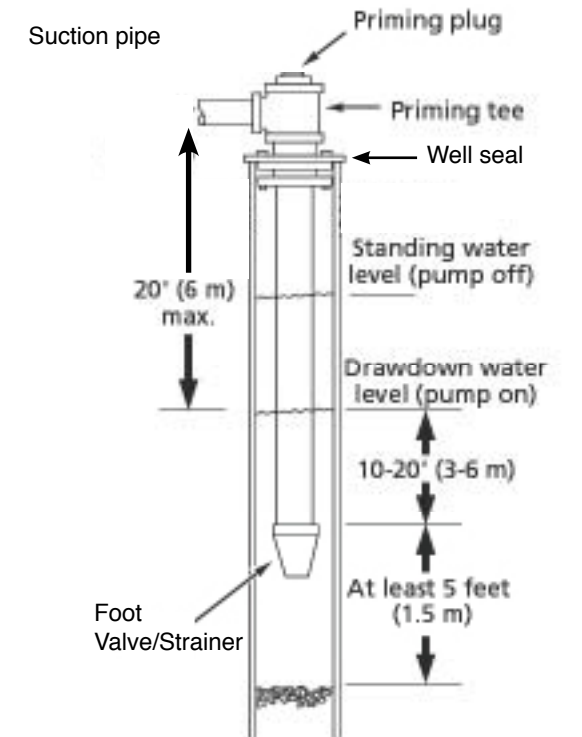

Figure 1 - Cased/Dug Well Installation
5. When using foot valve, a priming tee and plug are recommended. (Fig. 1).
For long horizontal pipe runs, install a priming tee between check valve and well head (Fig. 1).